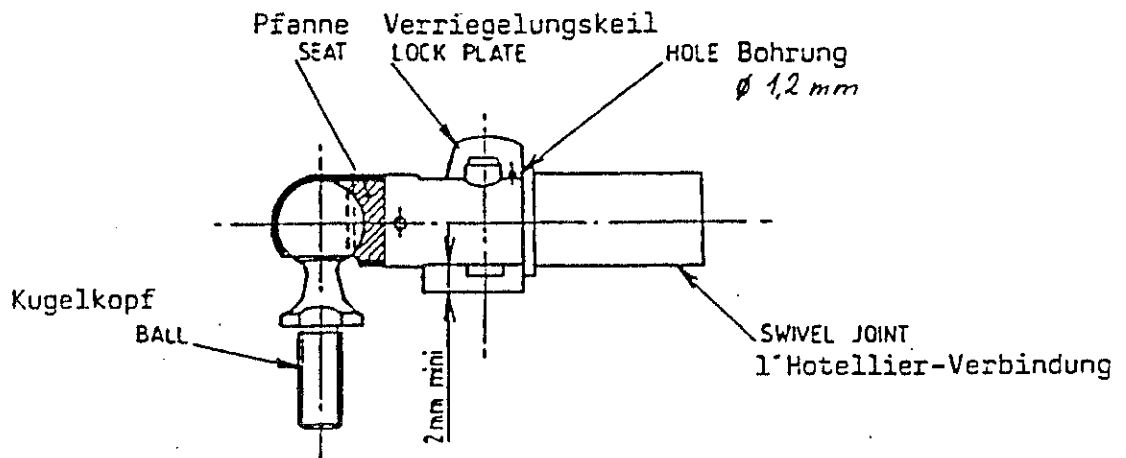

figure 1
- 1) If the joints are not yet equipped with safety pins (e.g. L'H 140-31 made by Hotellier), these safety pins have to be retrofitted. In certain cases it may become necessary to rebores the hole in the lock plate, which is provided for visual inspection, to $\varnothing 1.2$ mm so that the safety pin can be inserted (see figure 1).